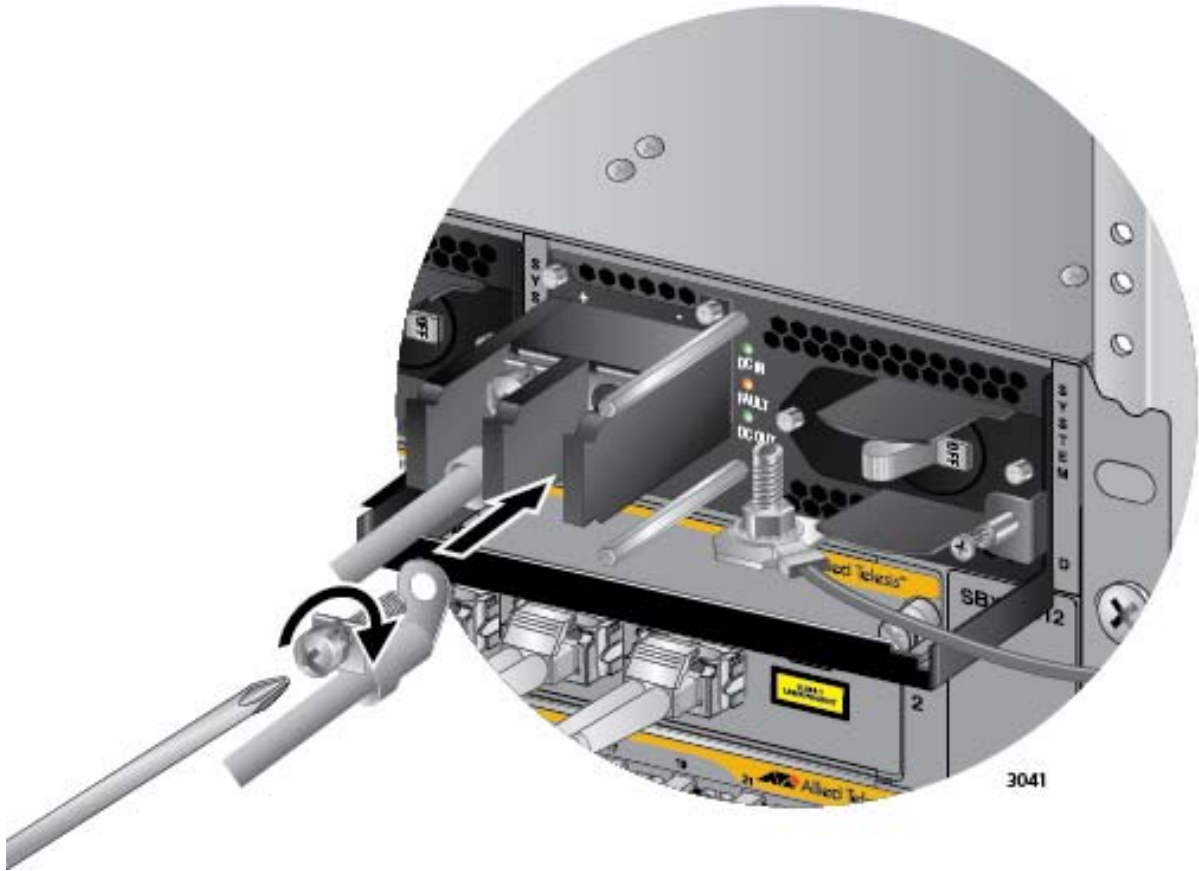

Figure 130. Connecting the Negative (-) Power Wire with a Right Angle Terminal
7. With a #3 Phillips-head screwdriver, connect the negative (-) power lead wire to the negative terminal on the power supply, with the remaining terminal screw removed in step 5. The negative terminal is on the right. Refer to Figure 130 on page 191.